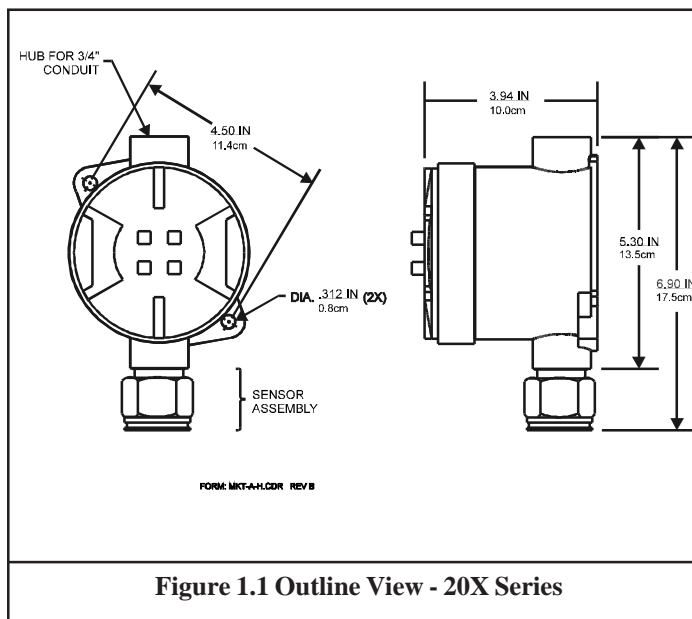

Figure 1.1 Outline View - 20X Series
2. On the 20X, remove the cover prior to exposing the sensor with gas. On the 200X series (see Figure 1.1 or 1.2) the sensor is in the lower right hand corner of the electronics board and the cover does not need to be removed.